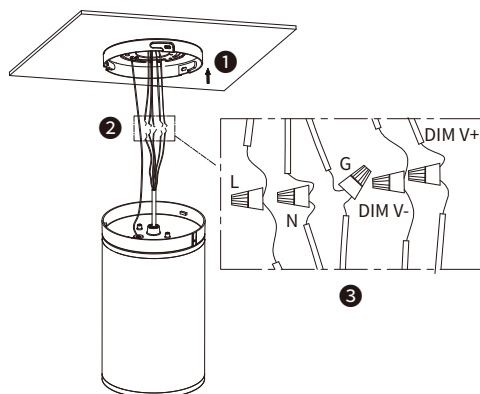

Fig 3
3. ① Fixed ceiling tray on the ceiling. ② Put on the safety rope. ③ Connect the wire. (Fig 3)